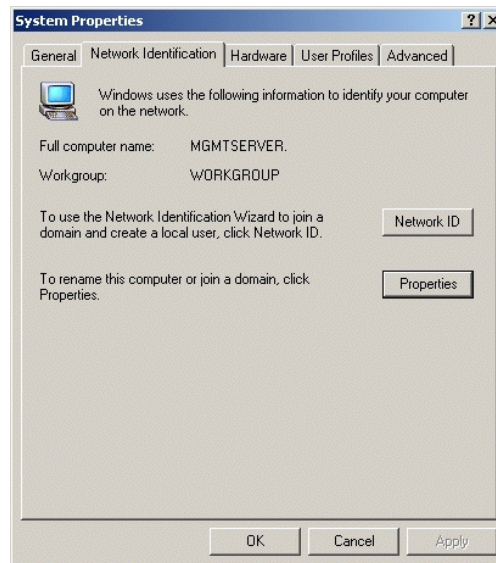

Figure 2-51 System Properties Dialog Box (Network Identification Tab)
3. Click the *Network Identification* tab. The *System Properties* dialog box displays with the *Network Identification* tab selected (Figure 2-51 on page 2-59).